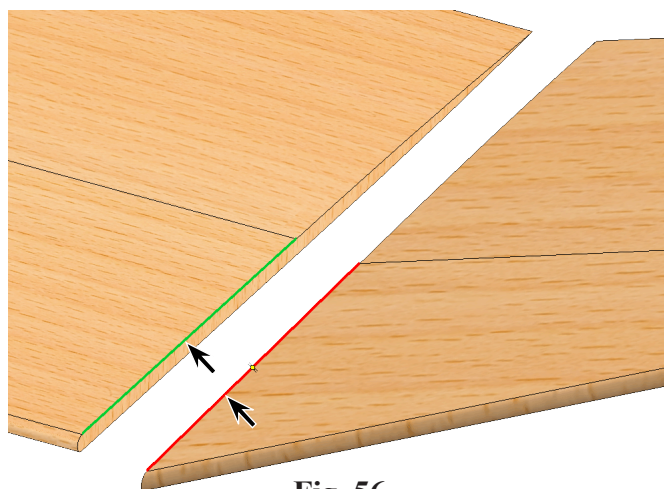

Fig. 56
Step 8. Click **top edge of Wing Inboard tip** and **edge top of Wing Outboard root**, **Fig. 56**.